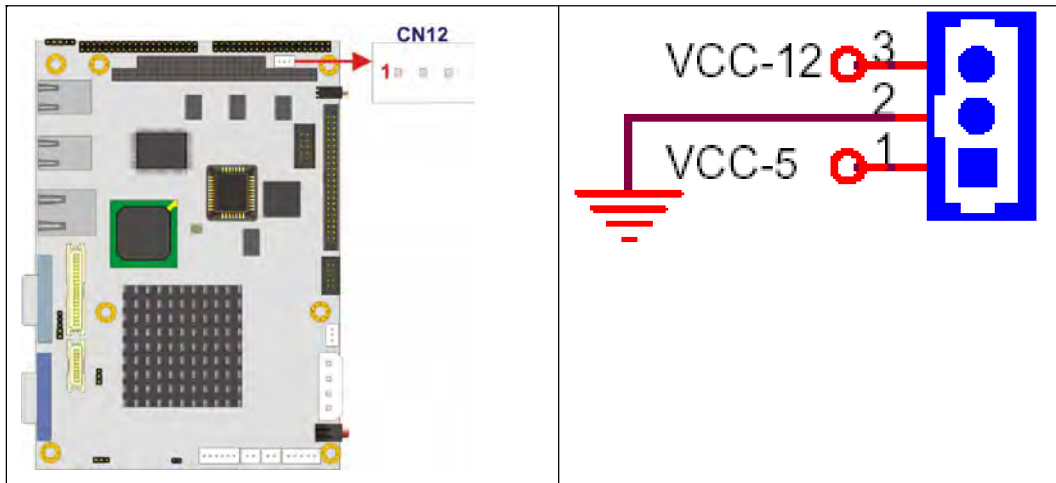

Figure 4-13: PC/104 Power Input Connector Pinouts
- CN Location:** See Figure 4-13